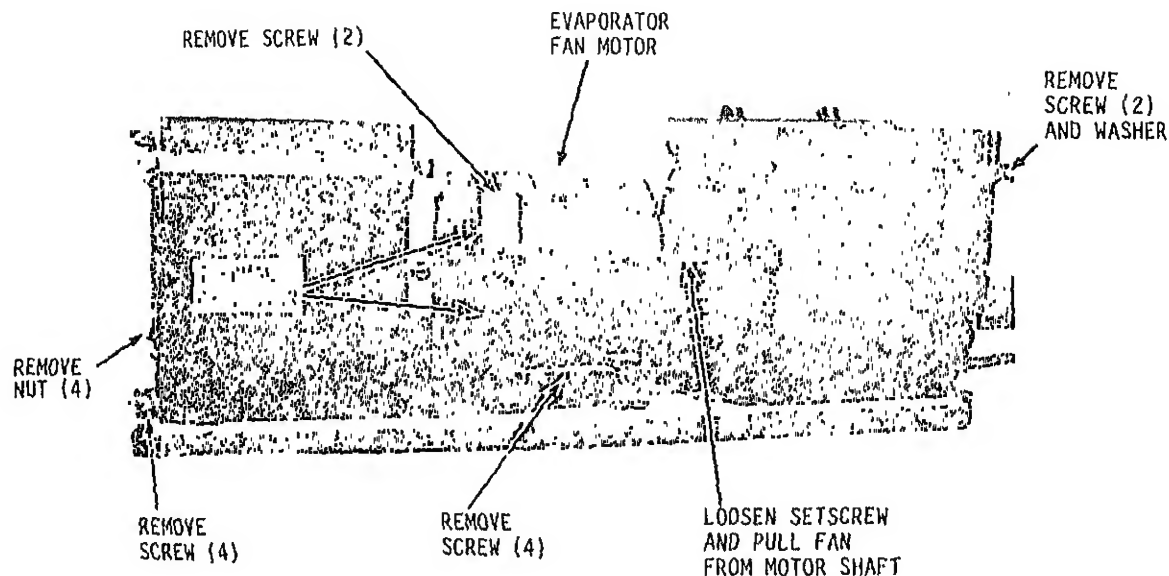

Figure 4-8. Evaporator, fan, motor, and thermal protector, removal and installation
(3) Refer to figure 4-8 and disassemble the fan and motor assembly.
(1) Refer to figure 4-8 and remove housing from the high and low speed motor winding thermal protectors. Refer to para 4-22c and test thermal protectors.
(2) Test the motor for open-circuited or grounded windings as follows.
(1) Refer to figure 4-8 and assemble the fan and motor assembly.
(1) Refer to paragraph 4-21c and remove evaporator fan and motor assembly.
(2) Refer to figure 4-8 and unsolder thermal protectors.
(1) Refer to figure 4-8, install thermal protectors.
(2) Refer to paragraph 4-21e and install evaporator fan and motor assembly.
(1) Refer to paragraph 4-23 and remove the condenser fan and motor assembly.
(2) Refer to figure 4-8 and remove the thermal protector.
(1) Refer to figure 4-8 and install the thermal protector.